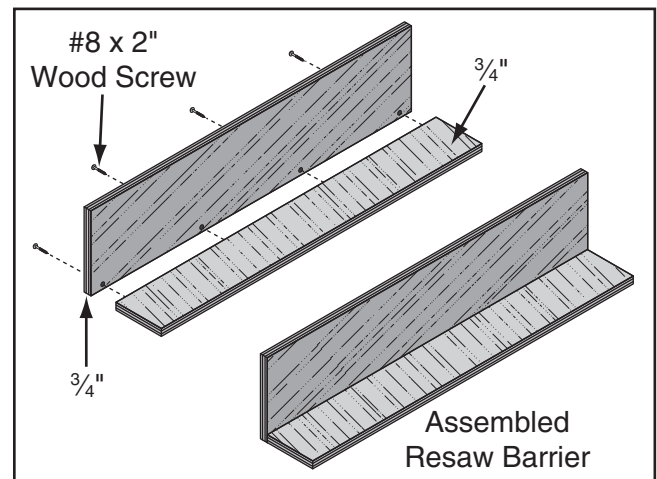

Figure 123. Resaw barrier.
3. Glue end of 3" board and clamp boards at a 90° angle with larger board in vertical position, the fasten together with wood screws (see **Figure 123**).